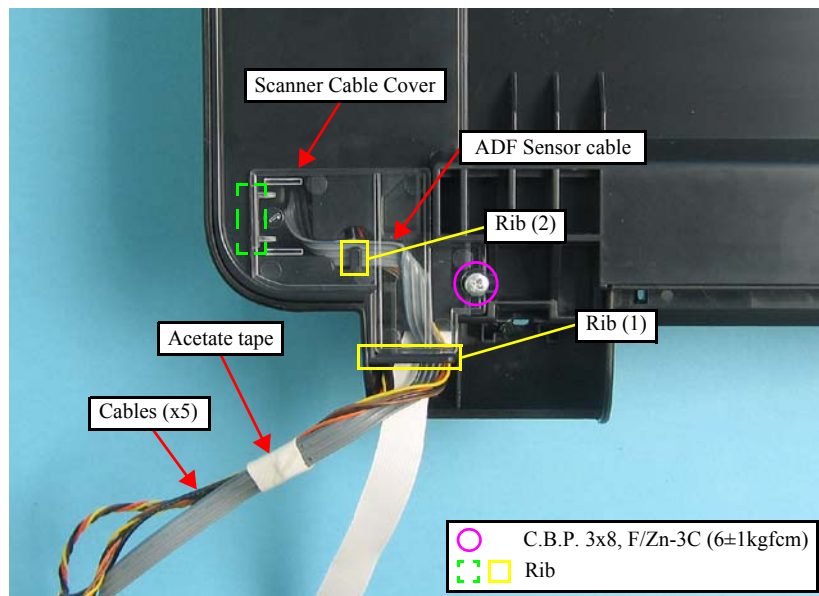

Figure 4-114. Separating the Cables
- When installing the Scanner Cable Cover, first insert the rib of the Scanner Cable Cover shown in Figure 4-114 to the Lower Scanner Housing, then tighten the screw.